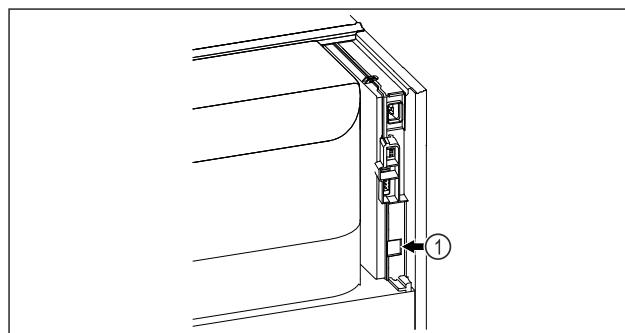

Fig. 128
- SmartModule Fig. 128 (1) is in use.